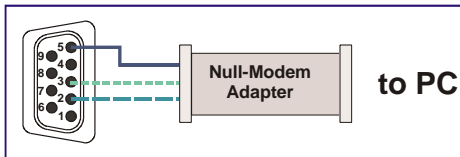

Figure 6: Straight Cable RS-232 Connection with a Null Modem Adapter
**Method B (Figure 6)**—Connect the RS-232 9-pin D-sub port on the unit via a straight (flat) cable to the null-modem adapter, and connect the null-modem adapter to the RS-232 9-pin D-sub port on the PC. The straight cable usually contains all nine wires for a full connection of the D-sub connector. Because the null-modem adapter (which already includes the flow control jumpering described in Method A above) only requires pins 2, 3 and 5 to be connected, you are free to decide whether to connect only these 3 pins or all 9 pins.